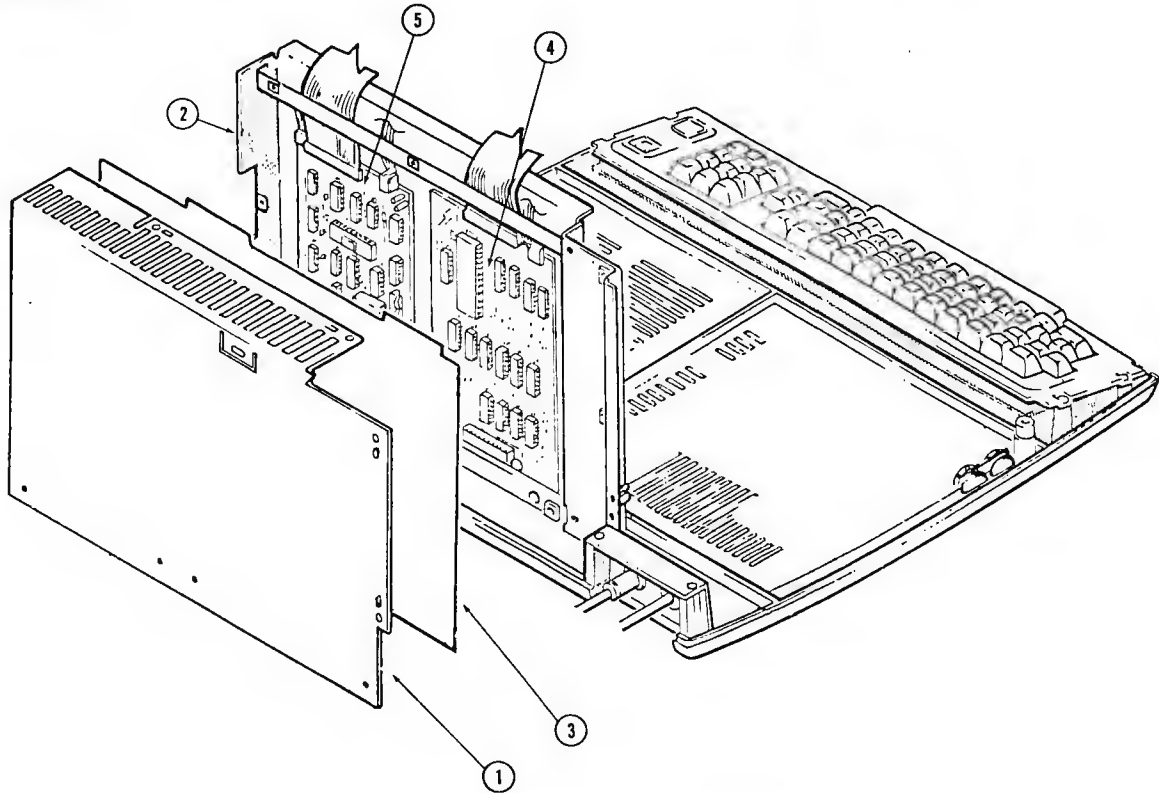

Figure 3. Model III Chassis Assembly
7. Remove the six screws which attach the Logic (CPU) Board RFI rear shield (if present) (Figure 3 Item 1), to the chassis (Figure 3 Item 2) and ground connectors. This shield is also held in place with tape along the lower edge. Carefully peel the tape away from the bracket so that the tape can be reused.
8. Disconnect all cables (power supply, video, keyboard, floppy disk, RS-232 board and cassette) from the Logic (CPU) board (Figure 3 Item 3).
11. Disconnect the power from the RS-232 and the Floppy Disk Controller (FDC) boards (Figure 3 Items 4 and 5) and be sure to label the connectors.